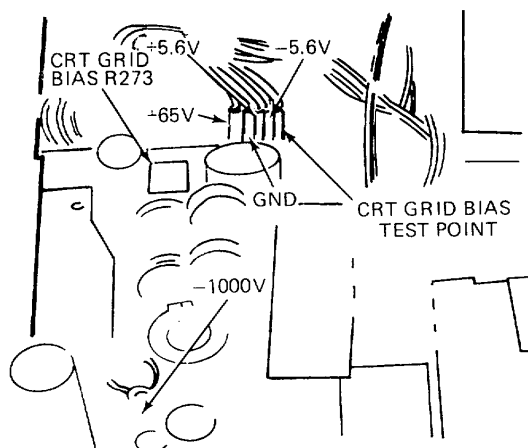

Figure 4-1. Location of power supply test points and CRT Grid Bias adjustment.
a. Using the DC voltmeter, measure the DC level of the power supplies given in Table 4-2. Observe proper meter polarity. See Fig. 4-1 for test point locations.
2 of plug P3 (negative meter lead to pin 2) on the Power Supply Board. See Fig. 4-1.
d. ADJUST-CRT Grid Bias, R273 (see Fig. 4-1) for a meter reading of +1.9 volts.